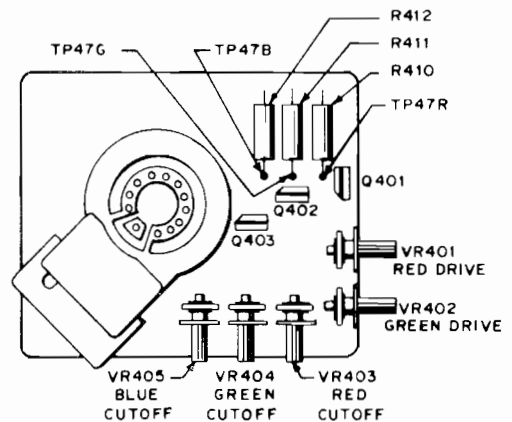
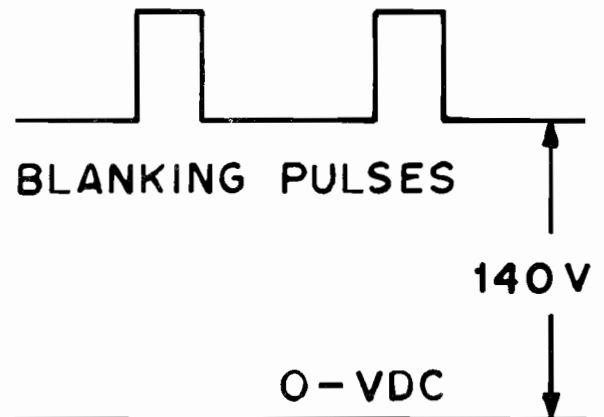

FIGURE 2
FIGURE 3
- 6 Connect the oscilloscope, multimeter, or VOM, to the collector of a video output transistor (Q401, Q402, or Q403) on the CRT neck PCB at TP47R, TP47G, or TP47B as shown in Fig. 2.
- 7 Adjust the black level control (VR201) to obtain the waveform shown in Fig. 3 or a $\$$ 150 volt DC reading on the multimeter or the VOM.
- 13 With the oscilloscope, multimeter, or VOM connected to the collector of the lead color video output transistor (See Fig. 2), adjust the black level control to obtain the waveform in Fig. 3 or a $\$$ 150 volt DC reading on the multimeter or VOM.